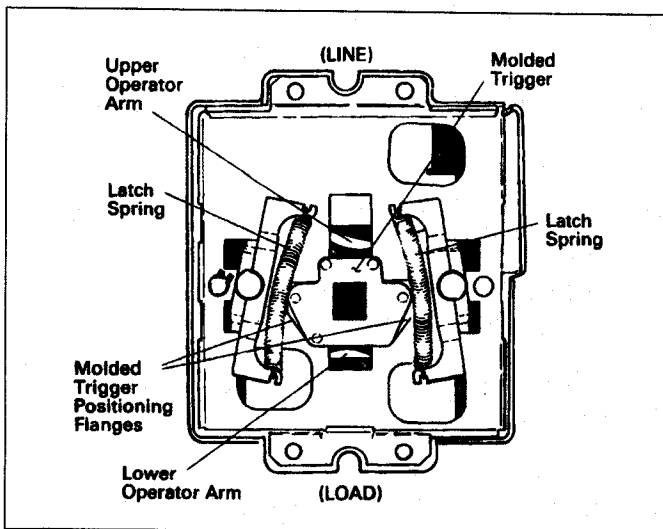

Fig. 2-1. Molded Trigger
- 2-3. If it is necessary to change the molded trigger, spread the two latch springs away from the molded trigger positioning flanges, and lift the molded trigger from the assembly. (See Fig. 2-1.)
- 2-4. To install the molded trigger (Type FB), spread the latch springs, position the molded trigger in the slot, and release the springs. Make sure springs rest on top of molded trigger flanges (see Fig. 2-1).